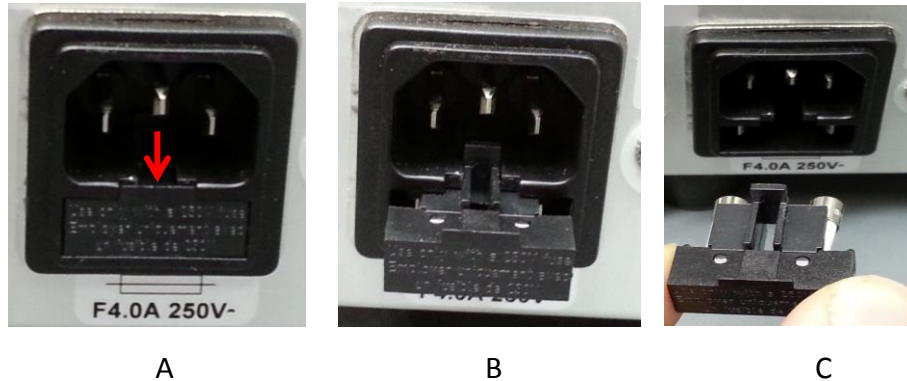

Figure 10 Location and Removal of Fuse Tray in AC Receptacle
- a. Check both main power fuses. First disconnect the power cord, then carefully remove the fuse tray assembly next to the AC receptacle on the rear of the unit. Note: depending on the orientation of the AC receptacle, the fuse tray may be below or beside it. The red arrow in figure 10 (A) shows where a flat screwdriver can be inserted to gently lever out the fuse tray.